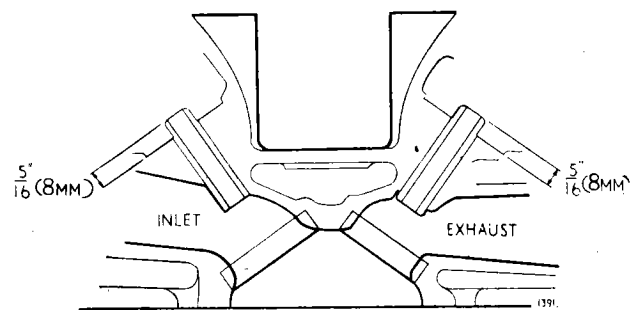

Fig. 57. Showing the fitted position of the valve guide.
- (3) Heat the cylinder head by immersing in boiling water for 30 minutes.
- (4) Coat the valve guide with graphite grease and press in, or drive in with a piloted drift, from the combustion chamber end. The correct fitted position for both inlet and exhaust guides is with the top of the guide (chamfered end) $\frac{5}{16}"$ (8 mm.) above the spot facing for the valve spring seat. (See Fig. 57).